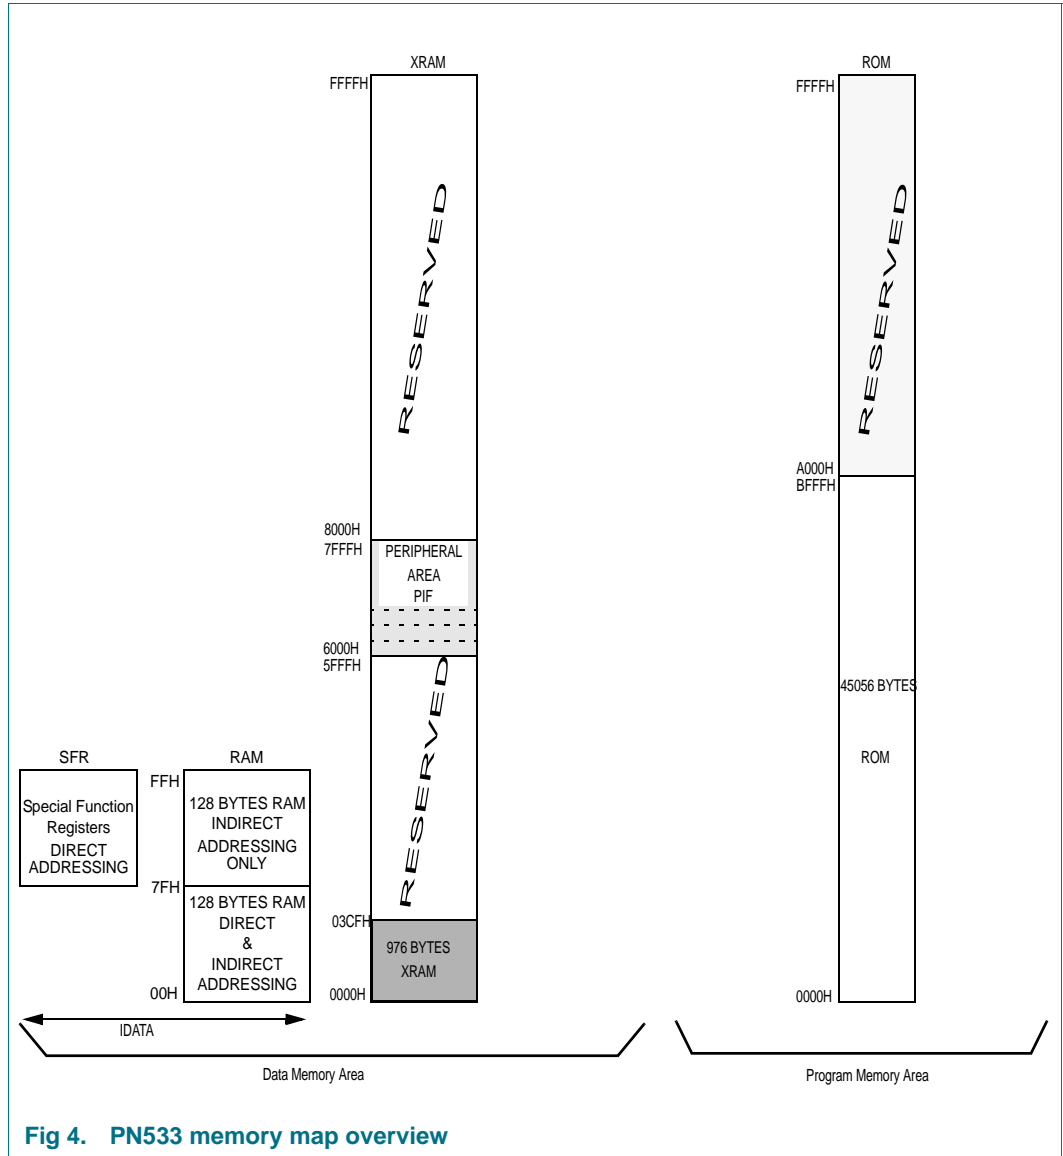

Fig 4. PN533 memory map overview
- RAM interface to embedded IDATA and XRAM memories (see Figure 4 on page 10)